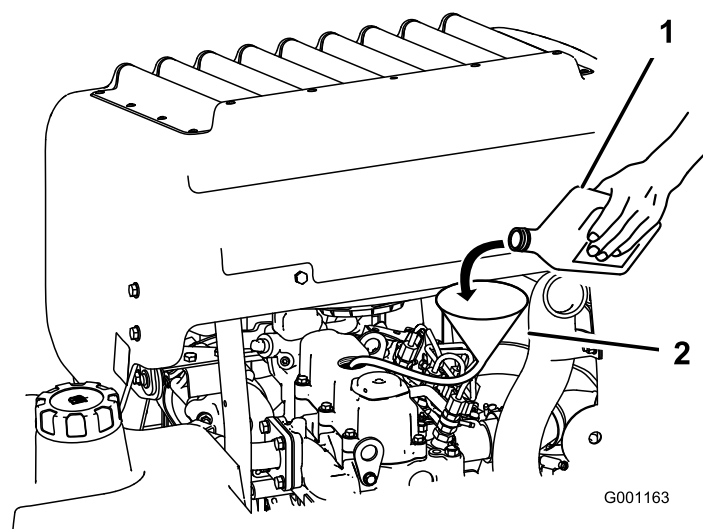

Figure 42
3. To add oil to the engine, locate and use a hose and funnel for adding oil (Figure 42).